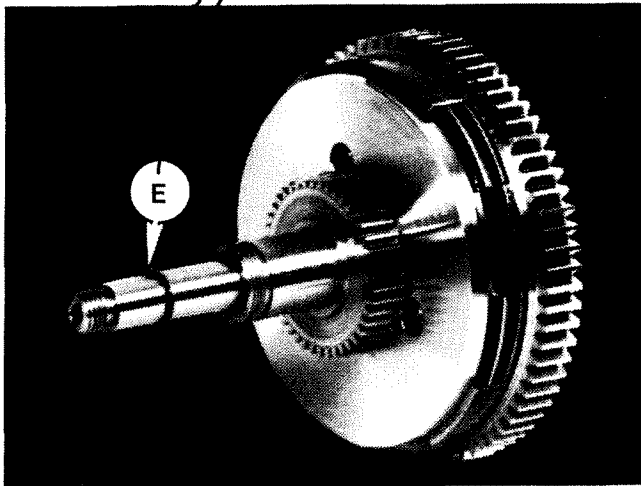

Figure 1.12 - Cross Feed Clutch
- a) Remove snap ring "E", Figure 1.12 .